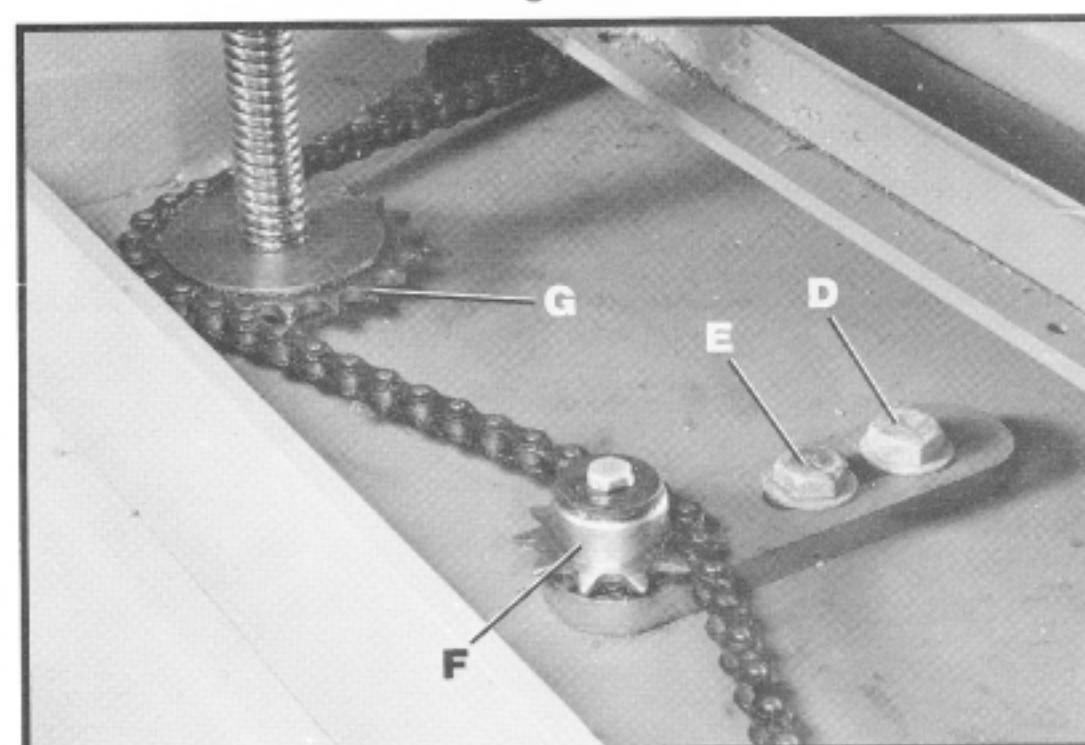

Fig. 43
6. Remove bolt (D) and loosen bolt (E) Fig. 43, which will allow you to move the idler sprocket assembly (F) far enough to remove chain from sprocket on end of head-casting that must be adjusted.
7. Turn sprocket (G) Fig. 43, by hand to bring that corner into adjustment with other three corners. **IMPORTANT: THIS ADJUSTMENT IS VERY SENSITIVE AND IT SHOULD NOT BE NECESSARY TO TURN THE SPROCKET MORE THAN ONE OR TWO TEETH.** Turning sprocket (G) clockwise will decrease the distance between the table and headcasting. Counter-clockwise will increase the distance.
8. Replace chain being careful not to disturb the position of the sprockets and replace idler sprocket assembly (F) Fig. 43. Tighten bolt (E) and replace bolt (D) which was removed in **STEP 6**.